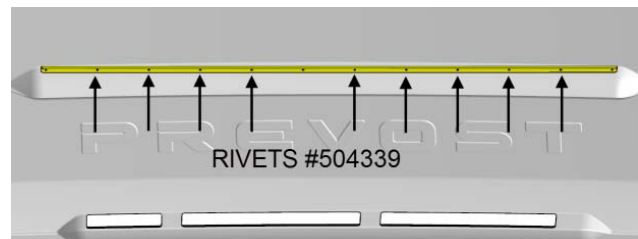

FIGURE 30
- Fasten drip edge using nine (9) rivets #504339 as shown on FIGURE 30. Use a 9/64" drill bit.